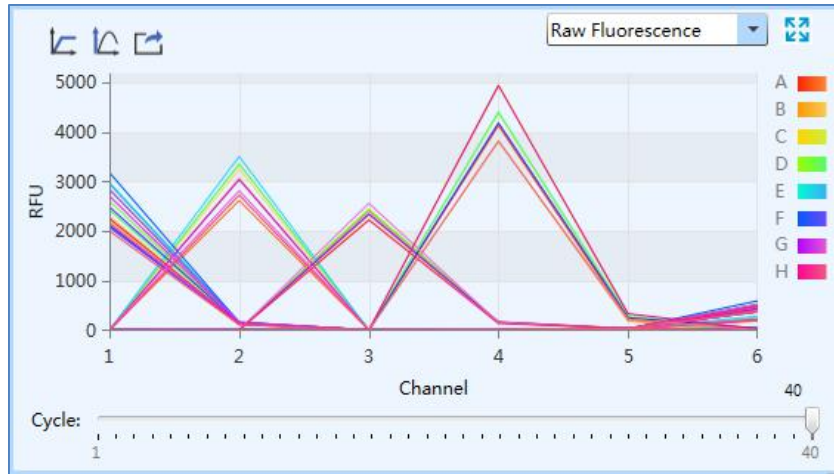

Figure D-9.6 Abs Quant analysis interface - Raw Fluorescence functional module
- VI. **Raw Fluorescence:** display the raw fluorescence data map of the current experiment, as shown in figure D-9.6.